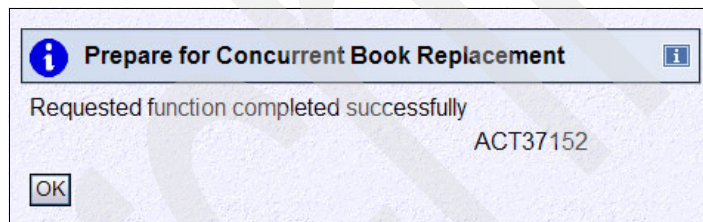

Figure 9-8 Preparation completed successfully, message ACT37152
6. Upon successful completion (Figure 9-8), the system is ready for the removal of the book.